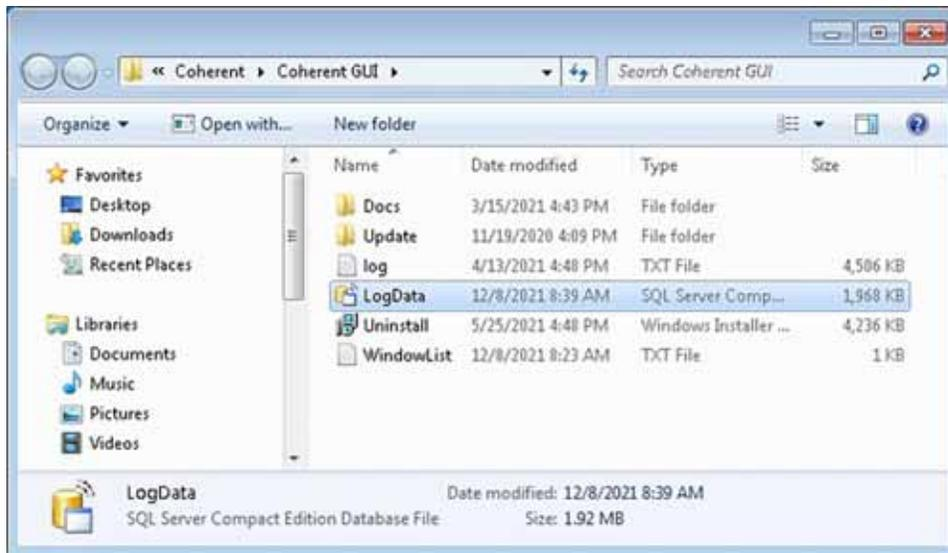

Figure 8-4. Find Log Data File
3. Press the “Open Folder” button, then find the “LogData.sdf” file in that folder and send to Coherent (see Figure 8-4).